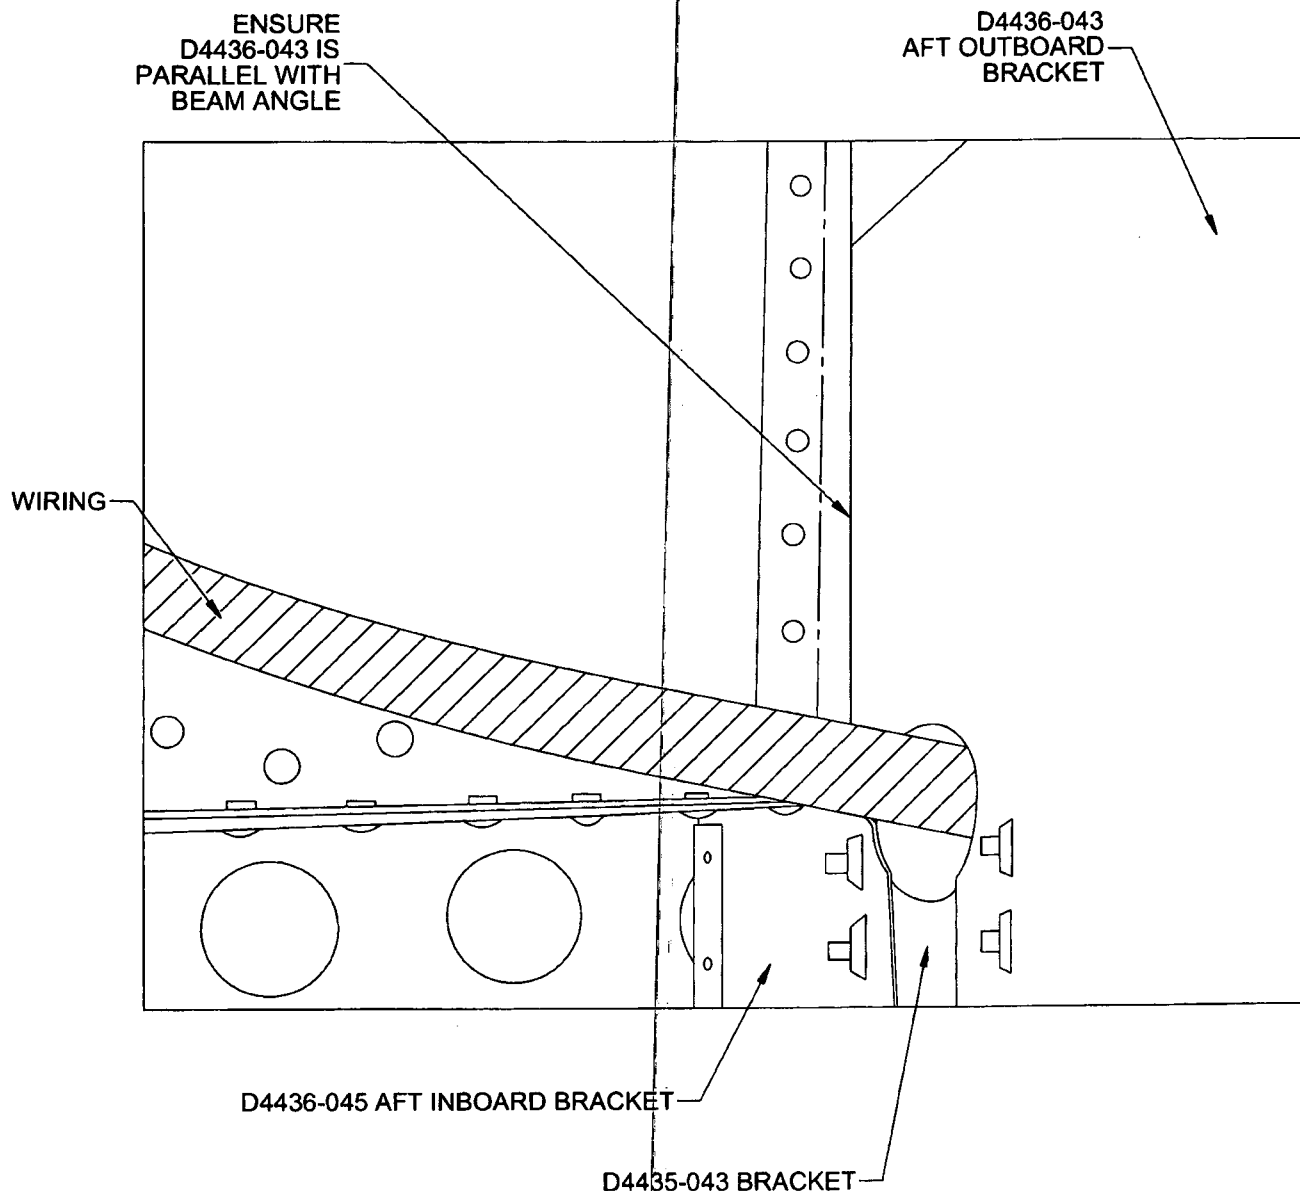

Figure 4. D4436-043 & D4435-043 Brackets Installation
- b) Confirm that the D4436-043 Aft Outboard Bracket and beam angle are parallel as shown in Figure 4.